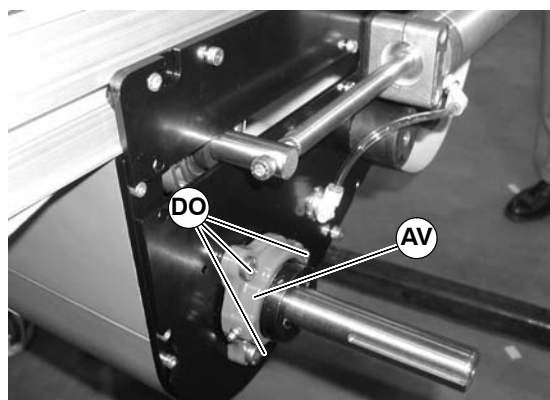

Figure 106
4. Remove the three (3) mounting screws (DO of Figure 106).
5. Remove and replace bearing housing assembly (AV of Figure 106).